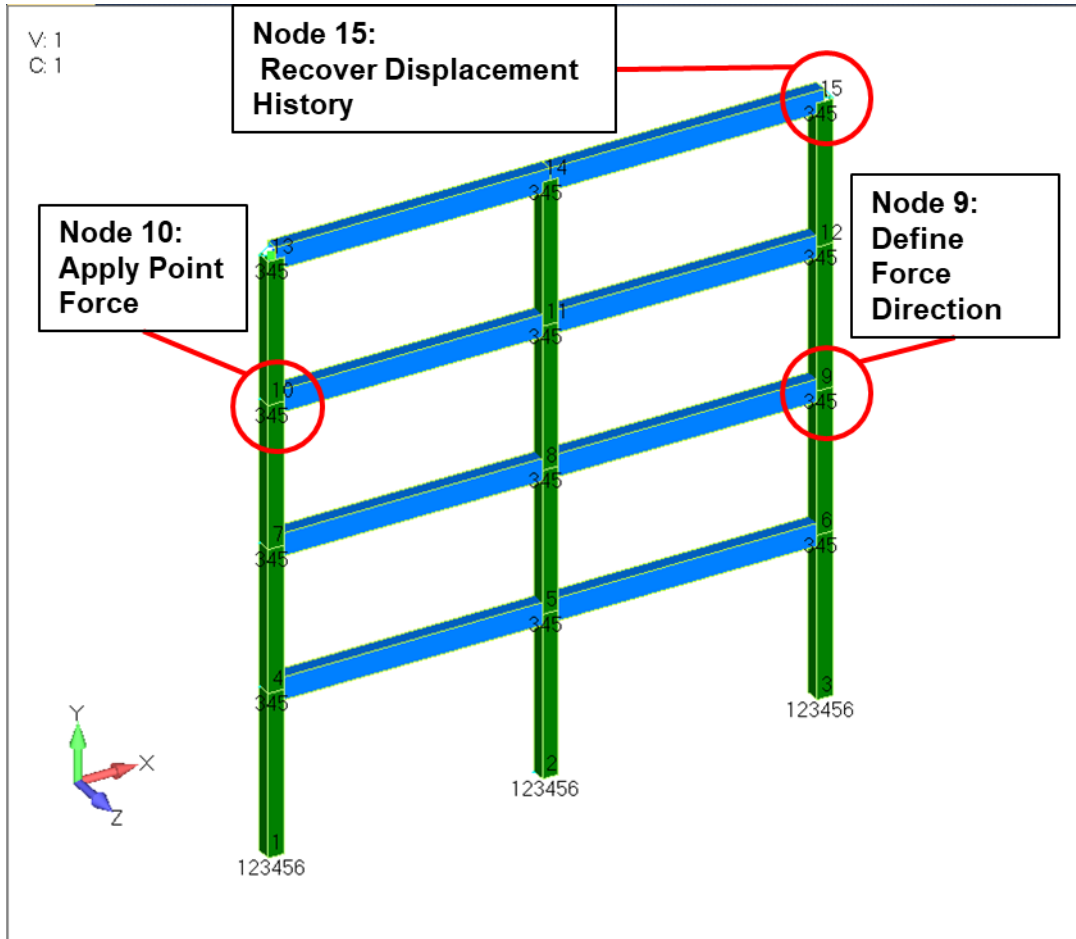

Figure 4-110. Frame model showing nodes of special interest.
1. If you have not already done so for a previous example, import the frame model "frame01_modes.dat" into Femap. Save the model file as "frame.modfem." Figure 4-110 shows the model with notes about nodes that will be of special interest for this analysis, either for defining input or for recovering physical responses.